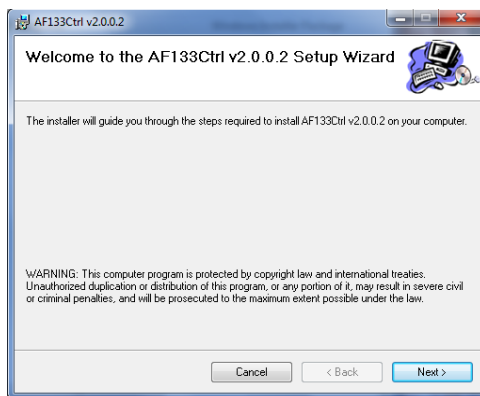

Figure 2
1. Double-click the "Setup.msi" from the AF133Ctrl folder to install software, then select the "Next" button (Figure 2).